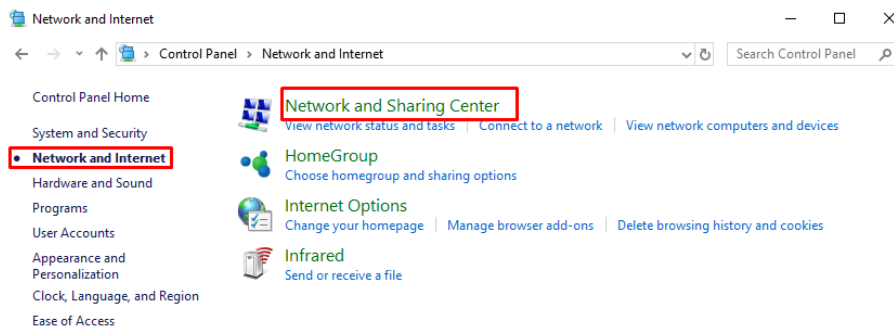

Figure A.2: Network and internet page
**Step 2** Click on the “Network and Internet” option (Figure A.2).